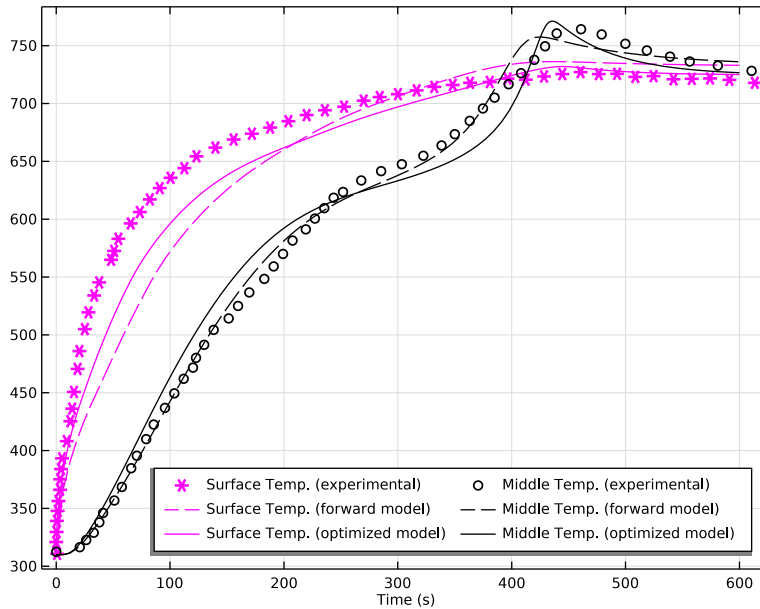
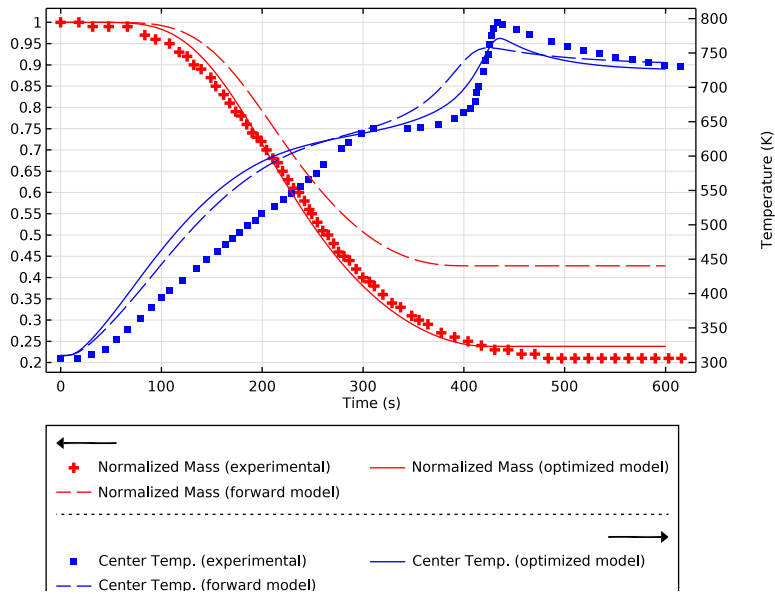
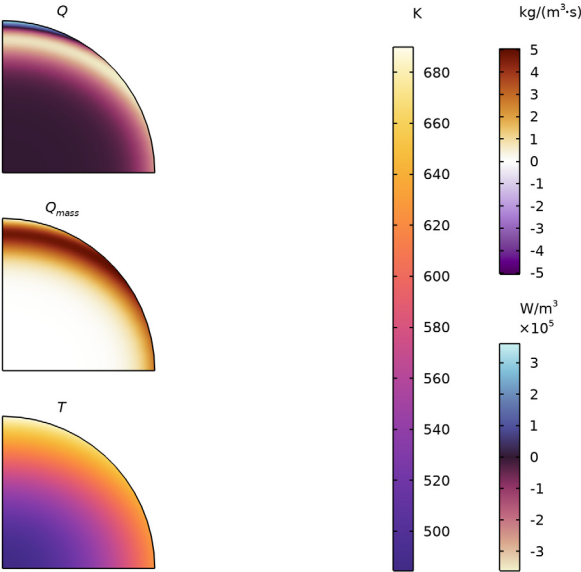

Figure 4: Surface and middle temperatures from the forward and the optimized model.
Figure 5: Center temperature and normalized solid mass from the forward and optimized model.
Figure 7: Temperature, mass source, and heat source in the modeled geometry, 150 s into the pyrolysis process.
The results from the forward model, using the initial guess of the parameter values in Table 1, are shown in Figure 4 and Figure 5. The model describes the trends in the temperatures and solid mass quite well, especially for the middle temperature (Figure 5). Both the timings and the absolute values of the peak temperatures for each position are lower than in experiments, and the experimental final solid mass is not captured by the model at all.
The model predictions after parameter estimation are illustrated in Figure 4 and Figure 5. For comparison, the results from the forward model are also included in those figures. It is clear that the optimized model better predicts the experimental results. The timing of the center temperature peak and its value are now captured, as is the final solid mass.
Figure 4 and Figure 5 above show the temperatures at the thermocouple positions in the particle. Figure 7–Figure 9 illustrate the temperature in the solid domain, together with both the mass source ( $Q_m$  in Equation 7) and the heat source ( $Q$  in Equation 9). As expected, at an early stage (Figure 7), a positive mass source is accompanied with a
*Figure 9: Temperature, mass source, and heat source in the modeled geometry, 433 s into the pyrolysis process. This time corresponds to the temperature peak seen in Figure 5.*